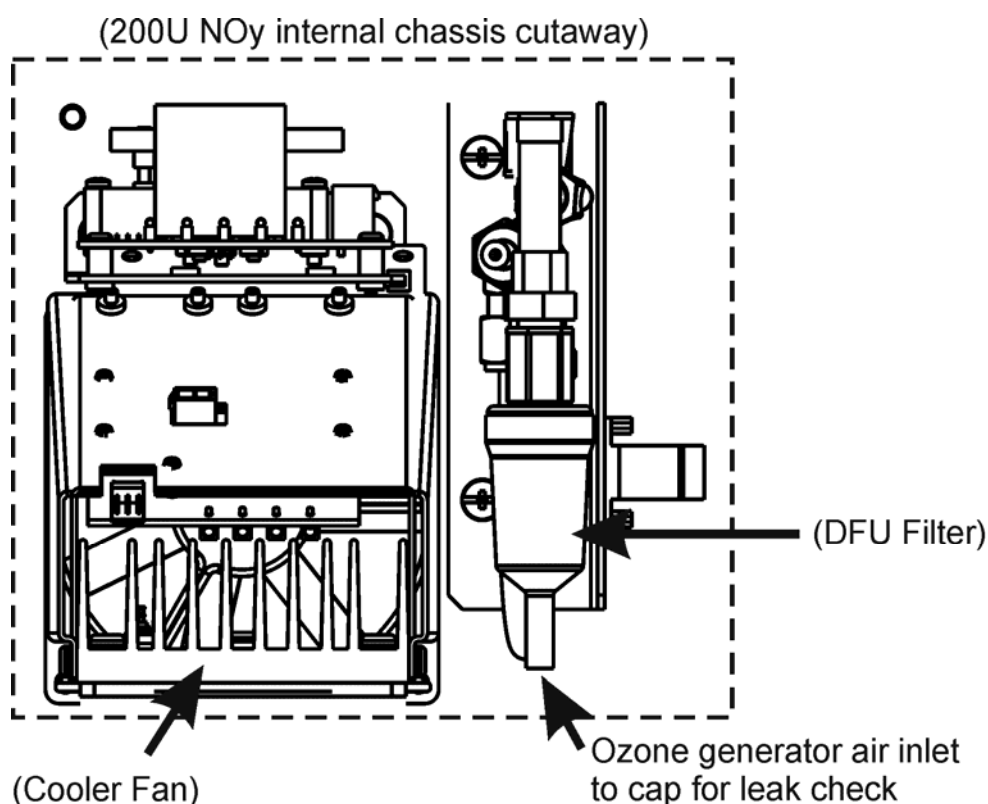

Figure 6. Location of O₃ Generator Air Inlet
2. Cap the sample inlet of the external Converter, the BYPASS OUT port of the 501Y, the ozone generator air inlet (located inside the analyzer, Figure 6), and the analyzer rear panel ZERO AIR/SPAN ports (if Z/S valve option present).
2. Disconnect the external Pump from the analyzer's rear panel. Cap the sample inlet of the external Converter, the BYPASS OUT port of the 501Y, the ozone generator air inlet (located inside the analyzer, Figure 6), and the analyzer rear panel ZERO AIR/SPAN ports (if Z/S valve option present), and connect the leak checker to the instrument exhaust port.